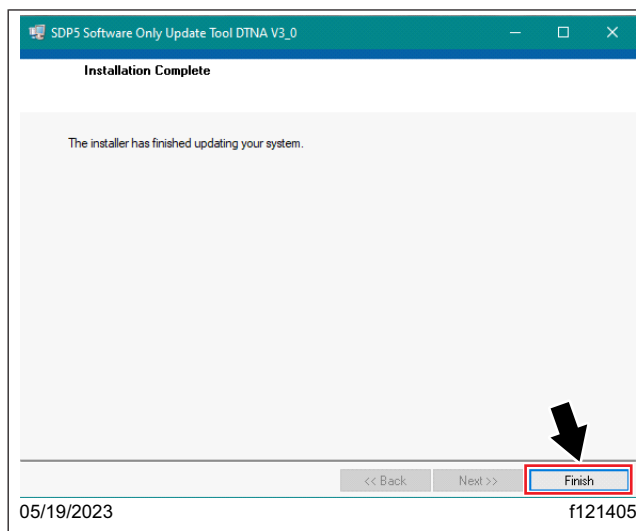

Fig. 12, Installation Completed
14. Once the installation is complete, select 'Finish.' See Fig. 12.